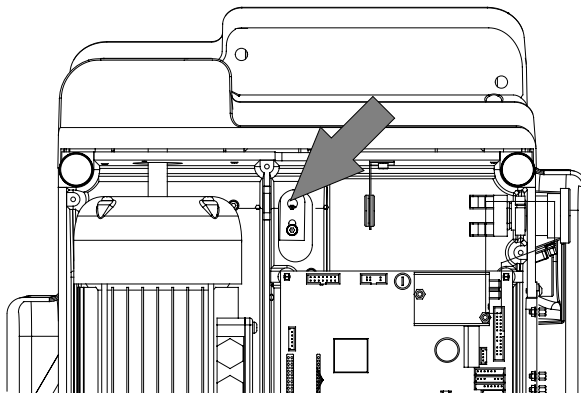

Fig. 47
- 3) disconnect the X axis sensor's connector from the electronic circuit board (fig. 47).